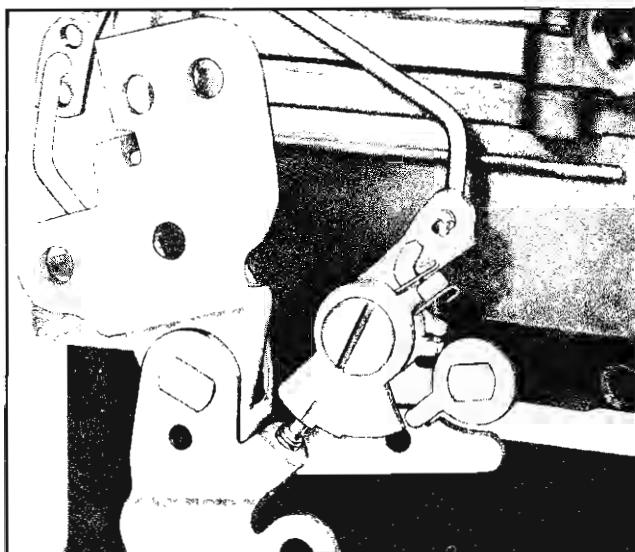

Fig. 6B-124 Checking Choke Shaft Lever
2. The distance from the top of the bowl cover to bottom of "S" pump link should be $5\frac{1}{16}$ " $\pm \frac{1}{32}$ " (Fig. 6B-123). Adjust pump linkage so that all play is removed at closed throttle position and full throttle lever travel is still obtainable.